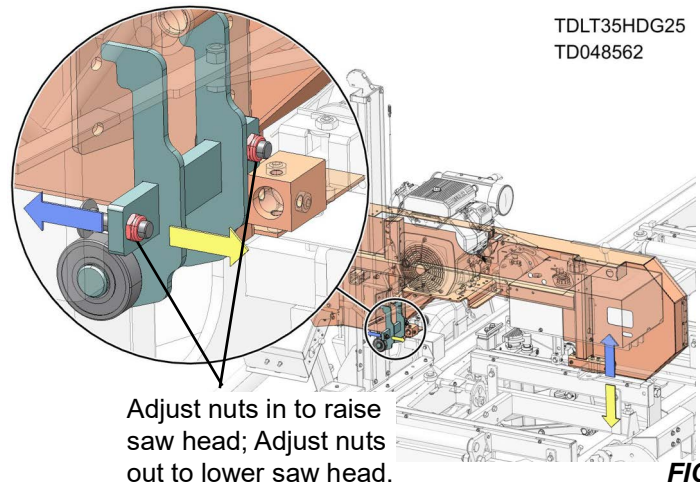

FIG. 7-2
5. Use the horizontal adjustment nuts to raise the outside of the saw head, tighten the two adjustment nuts. **See Fig. 7-2.**